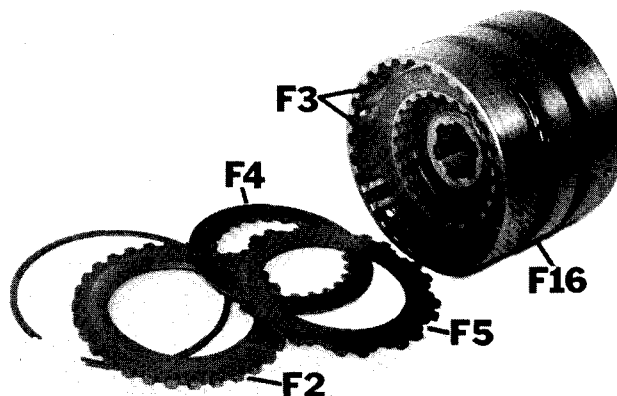

Figure 27
1. Remove pressure plate (F-2), springs (F-3), clutch disc (F-4) and driving plates (F-5) from clutch housing (F-16) (Figure 27).